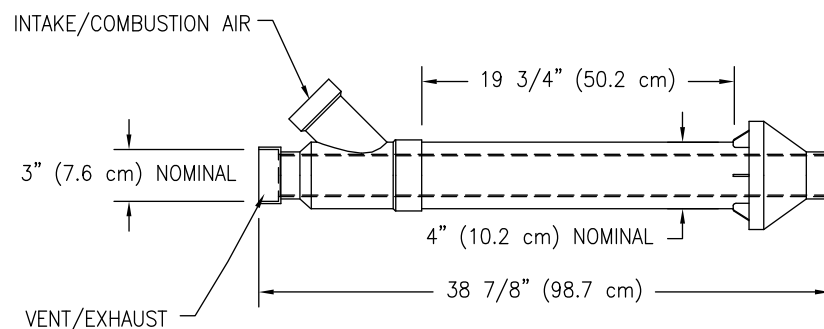

Figure 19. Dimensional Layout of Concentric Vent Kit (239-44069-01 3" Kit shown)
See Figure 19.
- Become familiar with coaxial vent kit part no. 239-44069-01, as shown in Figures 19 through 21. For venting 4 inch (10.2 cm) or 2 inch (5.1 cm) diameter pipe, use the appropriate bell reducer to reduce to the 3 inch (7.6 cm) diameter vent size to connect to the 3 inch (7.6 cm) vent terminal connections. If the 2 inch diameter concentric vent kit is preferred with 2 inch diameter pipe, then order concentric vent kit part no. 239-44069-02 from your supplier.